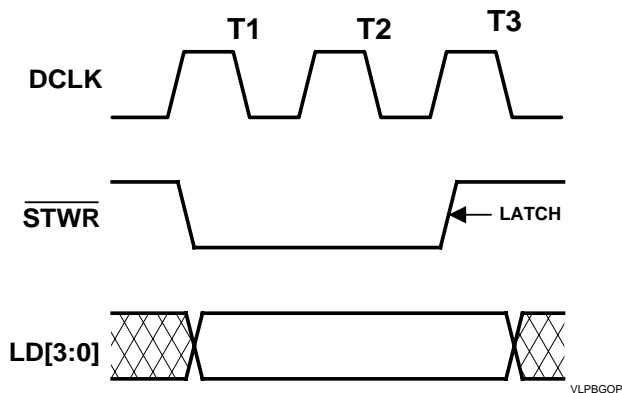

Figure 13-1. General I/O Port Timing
5. Write (anything) to CR5C. The data on LD[7:4] are latched 2 DCLKs later into MMFF1C_7-4. (This also drives the contents of MMFF1C_3-0 onto LD[3:0] and generates the \overline{STWR} pulse. The input data is latched on the rising edge of \overline{STWR} . See Figure 13-1)
5. Write (anything) to CR5C. The data in MMFF1C_3-0 are immediately driven onto LD[3:0] and the \overline{STWR} pulse is generated. The rising edge of \overline{STWR} (2 DCLKs after it is asserted) can be used to latch the data into an external device. The data is held valid for 1/2 DCLK after this edge. See Figure 13-1.